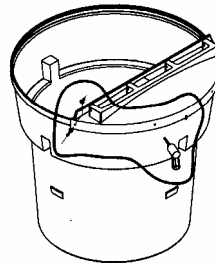

Fig. 2
2. Drill the first hole to the left of the notch, using the predrilled lid hole as a guide. (fig. 2)